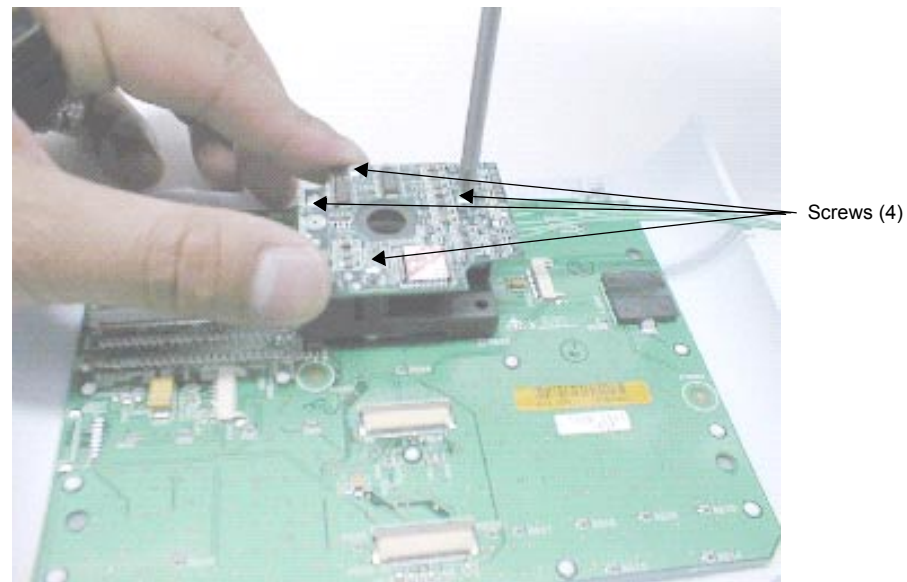

Figure 7.11 Removing the Trackball
- 12** Remove the four screws that secure the Trackball to the Control Panel Subassembly using a #1 Phillips screwdriver (Figure 7.11).